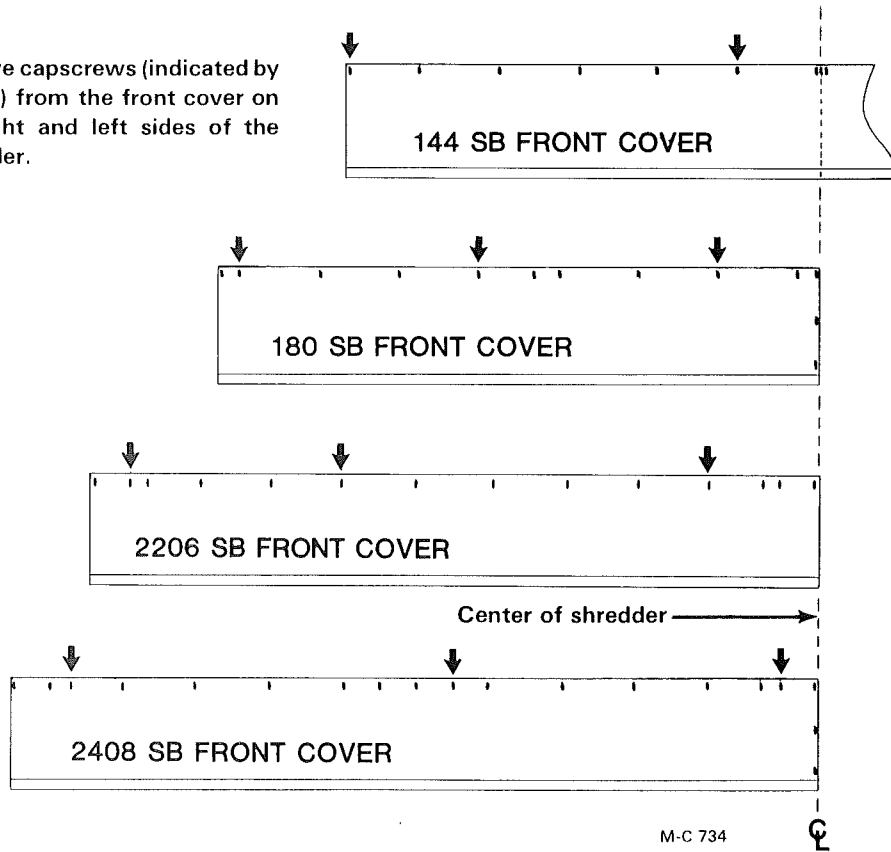

Figure 9
3. Remove capscrews and locknuts securing the front cover to the Shredder body at the locations shown in Figure 9 page 8. These are the locations that the stone guard supports bolt to.